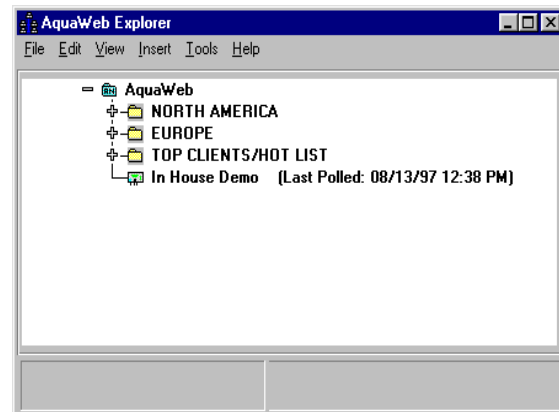

Figure 5.7 AquaWeb "Tree list"
4. Click OK on the login screen to open AquaWeb. AquaWeb is ready when you see a sample Network map displayed as a "tree" list (Fig. 5.7)